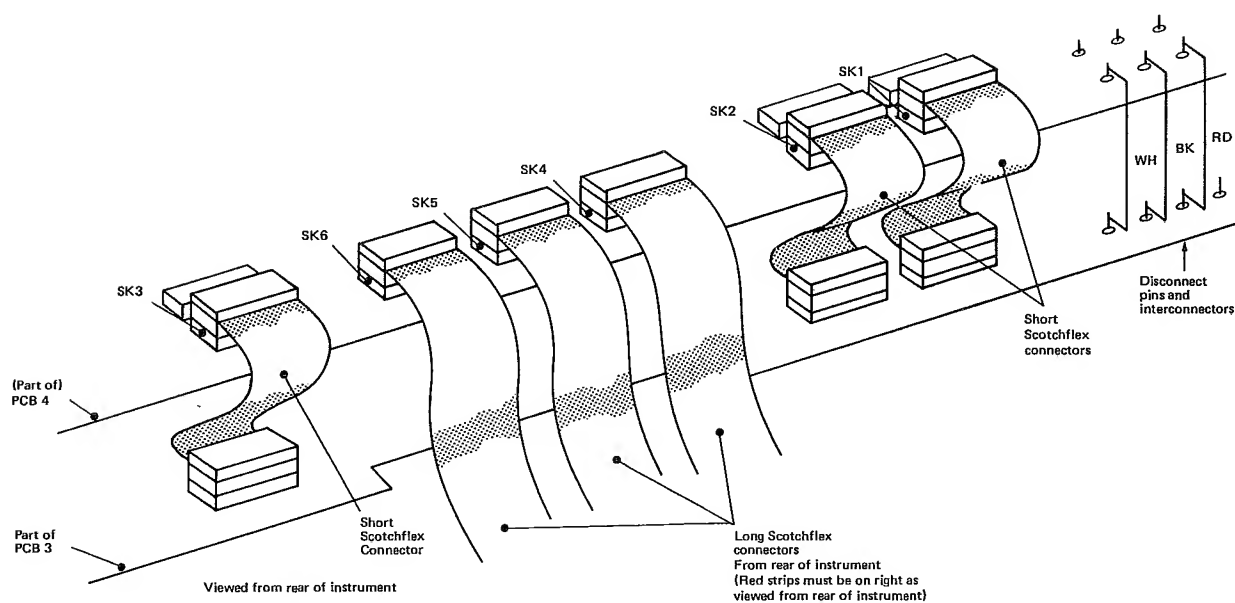

Fig. 4 PCB 4 Interconnecting leads
7. Fit the 3 disconnect leads — red (RD), black (BK) and white (WH) — to the + 5VA, 0V and 5VB disconnect pins on pcb 3 (Fig. 4). The 50Hz pin on pcb 3 is not used.
9. Connect all short and long Scotchflex connectors to the sockets on pcb 4 which are immediately in line with each connector (Fig. 4).
10. Connect the 3 disconnect leads to the appropriate disconnect pins on pcb 4 (Fig. 4).